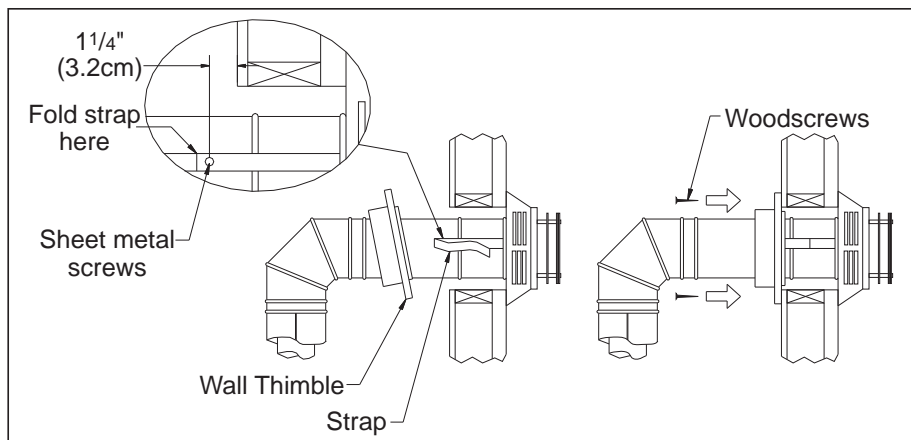

Figure 31: Installing Decorative Wall Thimble.
6. Slide the appliance and vent assembly towards the wall, carefully inserting the vent pipe into the cap assembly. It is important that the vent pipe extend into the vent cap a sufficient distance with a minimum of 1¼" (3.2cm) overlap. Secure the connection between the vent cap pipe and the vent cap by attaching the two sheet metal straps extending from the vent cap assembly into the outer wall of the vent pipe. Use the two sheet metal screws provided to connect the straps to the vent pipe. Bend any remaining portion of the sheet metal straps back towards the vent cap, so the decorative wall thimble will conceal it (see left image in Figure 31).
6. Once the pipe sections have been joined, and run up through the hole in the roof, slip an elbow strap over the exposed sections, bend the support straps outwards, and push the elbow strap down to the roof level, as shown in Figure 31. Tighten the clamp around the pipe section. Use a level to make sure the pipe is truly vertical. With roofing nails, secure the support straps to the roof. Seal the nail holes heads with non-hardening mastic. Trim the excess length of